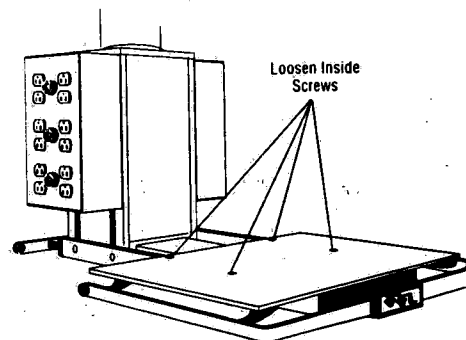

Figure 3-16. Adjust Platform
2. Loosen four inside screws on top of platform (see Figure 3-16).